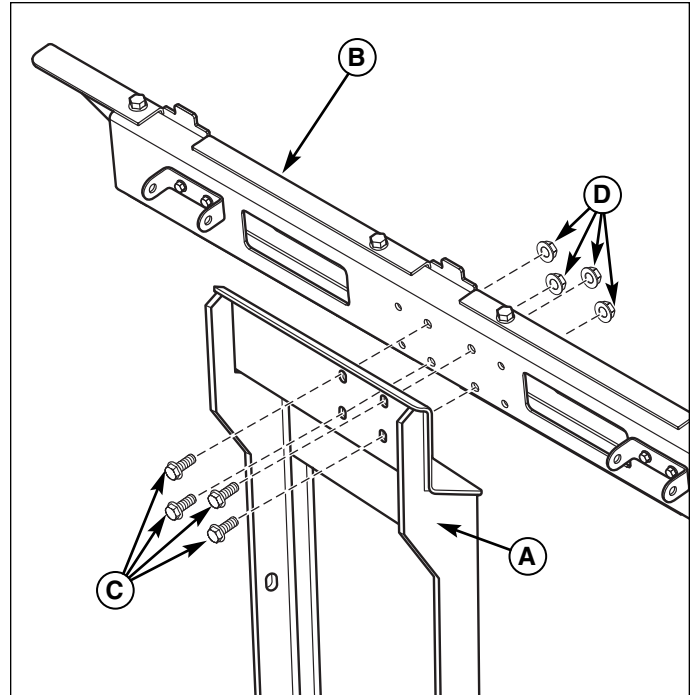

Figure 5. Install Bag and Cover Support
1. Install the bag and cover support (B, Figure 5) to upright support (A) using the capscrews (C) and the locknuts (D).